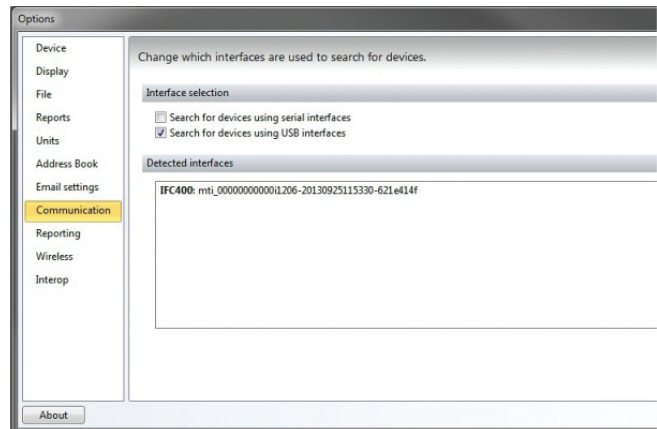

Figure 22. Communication Window
2. In the Options window, click the Communications tab. (Figure 22)